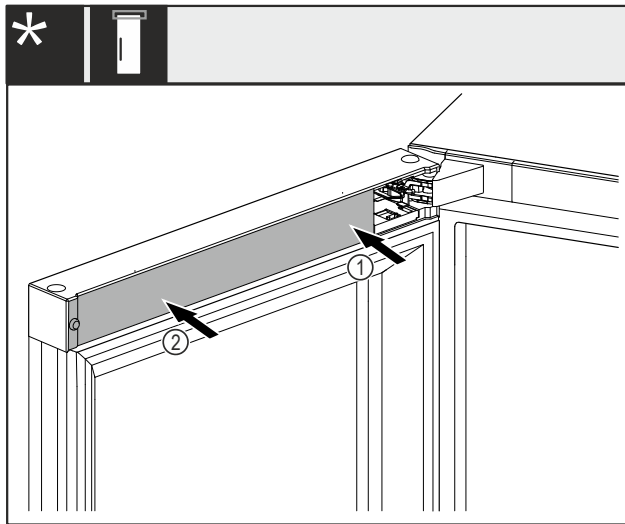

Fig. 49 *
- ▶ Place the cover Fig. 49 (1) on the bearing bracket side first and snap into place.*
- ▶ Fit the cover Fig. 49 (2) on the outside and snap into place.*